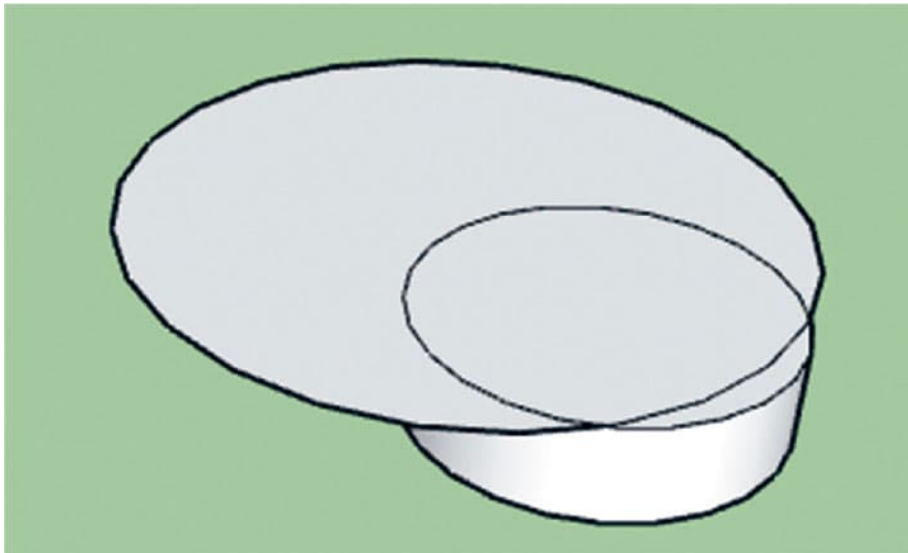

FIG. 2: Make a cylinder and add a cutting circle.
2. Designing the curved walls by creating a cylinder using the process in Lab 23 (shown here). Draw a circle with center on the circumference that almost covers the cylinder completely (fig. 2).